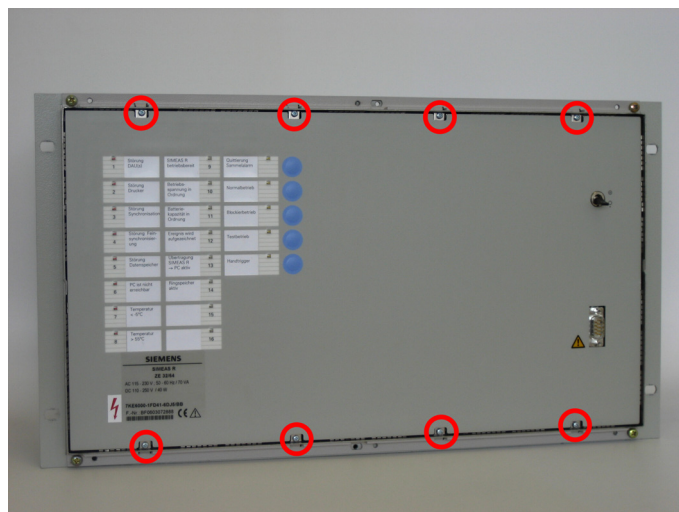

Figure 3-3 Removing the front plate
- ❑ Remove the screws on the top edge of the front plate. Loosen the screws on the lower edge only until the front plate can be easily removed (see Figure 3-3).